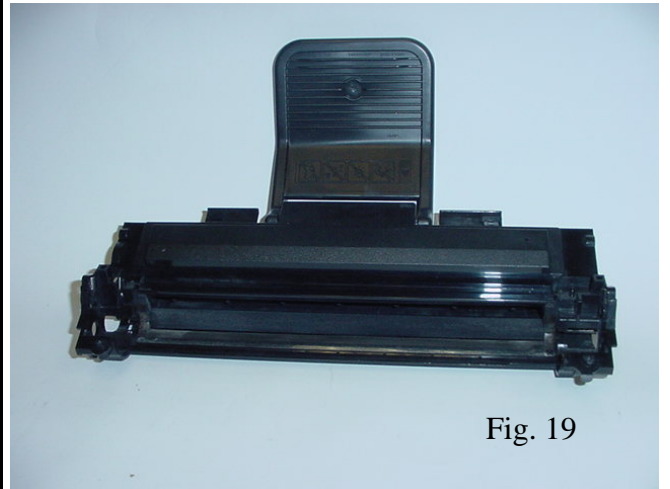

Fig. 19
19. Clean the adder roller thoroughly with compressed air, and then clean the toner hopper of all residual toner (Fig. 19).